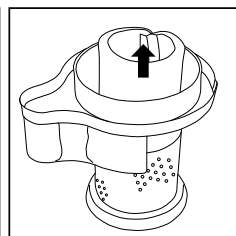

Fig. 6
4. Remove the black pre-filter from the inside of the cyclonic filter holder (Fig. 6).